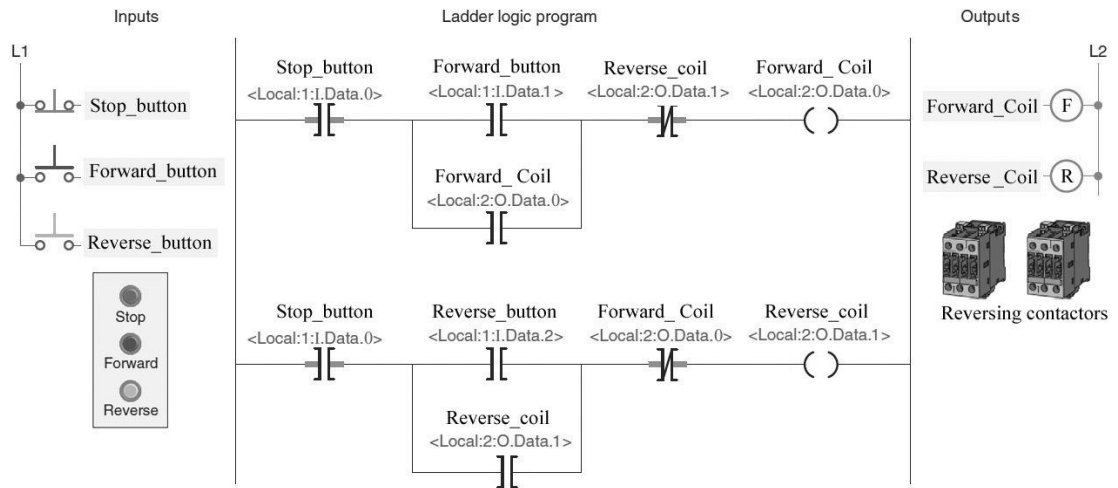

Figure 15-19 Programmed reversing conveyor motor control circuit for assignment 6.
6) The programmed reversing conveyor motor control circuit of Figure 15-19 is described in the text.